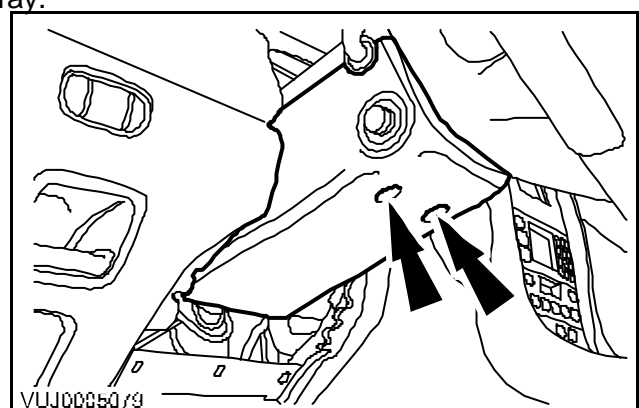

Fig. 1
- 4 Undo and remove steering column lower cowl securing screws. (See Fig. 1)